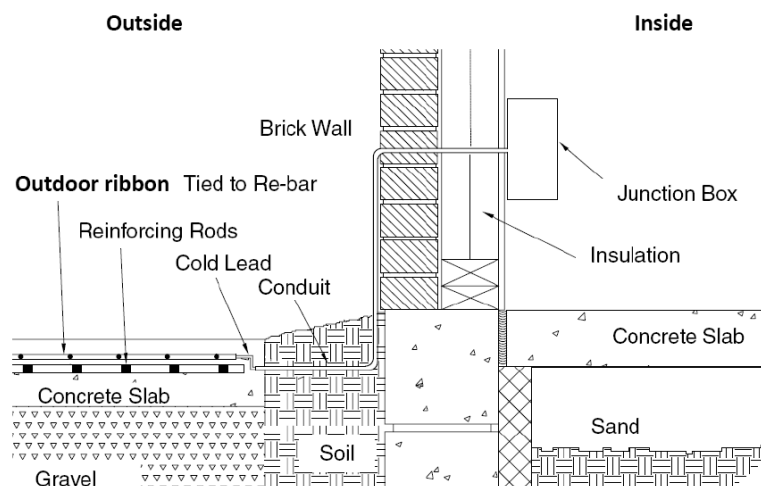

Fig.1.
- Provide suitable reinforcing .Refer to Fig.1.